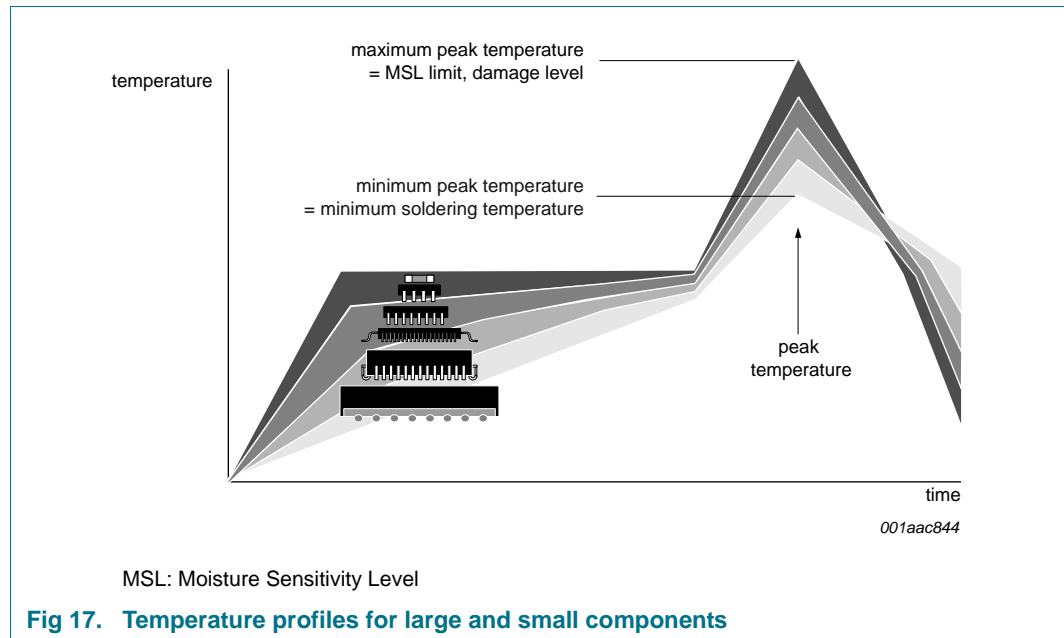

Fig 17. Temperature profiles for large and small components
- Lead-free versus SnPb soldering; note that a lead-free reflow process usually leads to higher minimum peak temperatures (see Figure 17) than a SnPb process, thus reducing the process window
Studies have shown that small packages reach higher temperatures during reflow soldering, see Figure 17.